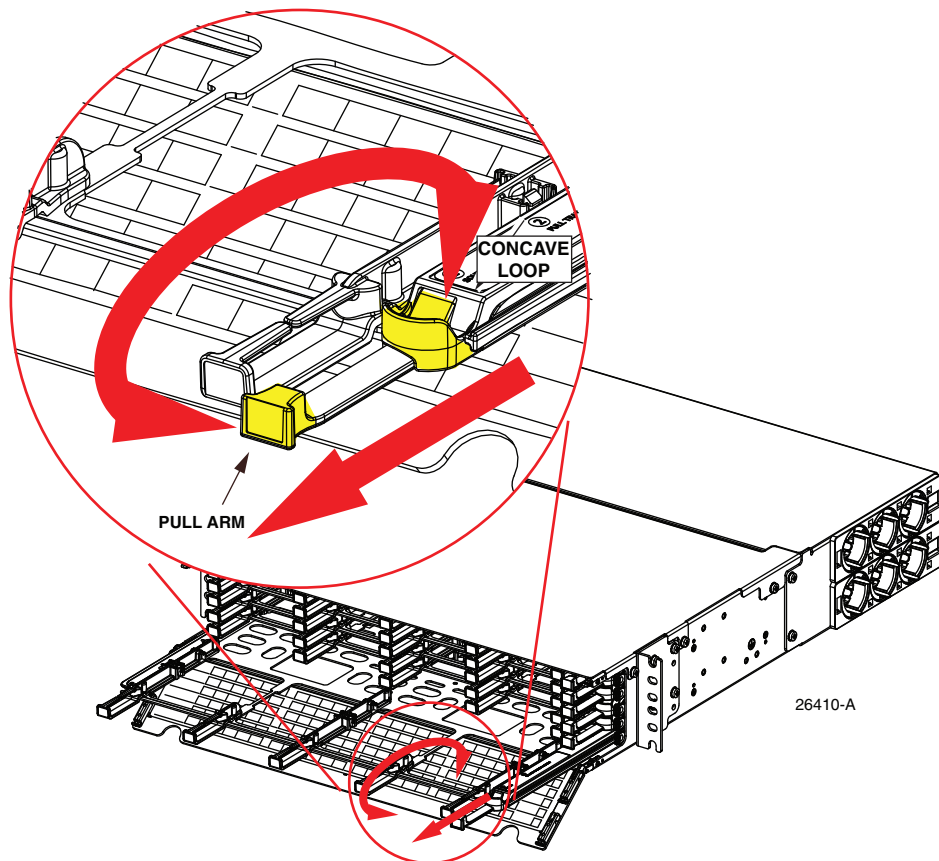

Figure 12. Sliding Out Blade to Second Position
2. To slide out the blade further to the second position (Figure 12):